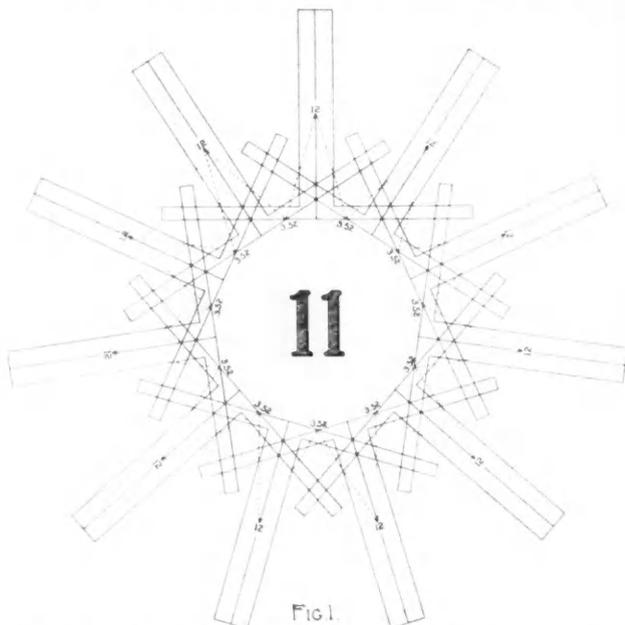

Fig. 1. A Badge for the Faithful Followers for a Square Deal.
In Fig. 1 is a type of sill found in many of the old houses, built at a time when wood was plentiful and close at hand. It shows the sill made of a 6 by 6-inch timber with the floor joists notched out and resting on top. The studs are spiked to the side of each joist with the ends bearing directly upon and toenailed into the sill.
In Fig. 3 is shown a type of box-sill, built of 2-inch timbers, which has several advantages over the other two methods. In both Figs. 1 and 2 the studs bear directly upon the sill while in Fig. 3 the joists rest upon the sill as before but are held in place by a 2-inch plank (X) spiked to their ends. The whole is then covered by the rough floor boards. Flush with the outer face of this plank is laid a 2-by-4, spiked to the joists. This acts as a plate upon which the studs are erected.
This method permits of two things. As timber shrinks in width and not in length, in Figs. 1 and 2 the floor will settle as the joists shrink out, but the base board will remain stationary as it is nailed to the studding. The shrinkage is very often so great that a crack is opened between the base board and the floor all about the room. When that occurs the only thing left to do is to put down a shoemould as in Fig. 1 which not only covers the crack, but tends to aid in keeping dust and dirt out of a place difficult to reach with a broom. In Fig. 3, however, the studding being placed on top of the joists settles with them so that the above difficulty is overcome. Also, an 18-foot stud,
Eleven years has come and gone since the AMERICAN CARPENTER AND BUILDER started on its mission for good, March, 1905. We have tried to keep our part of it in giving the readers a square deal and how well we have succeeded, we leave it to them that have tried to follow us thru these eleven years. Those that have, are certainly entitled to something—and so we present them an Emblem in commemoration of the occasion, as shown in Fig. 1.